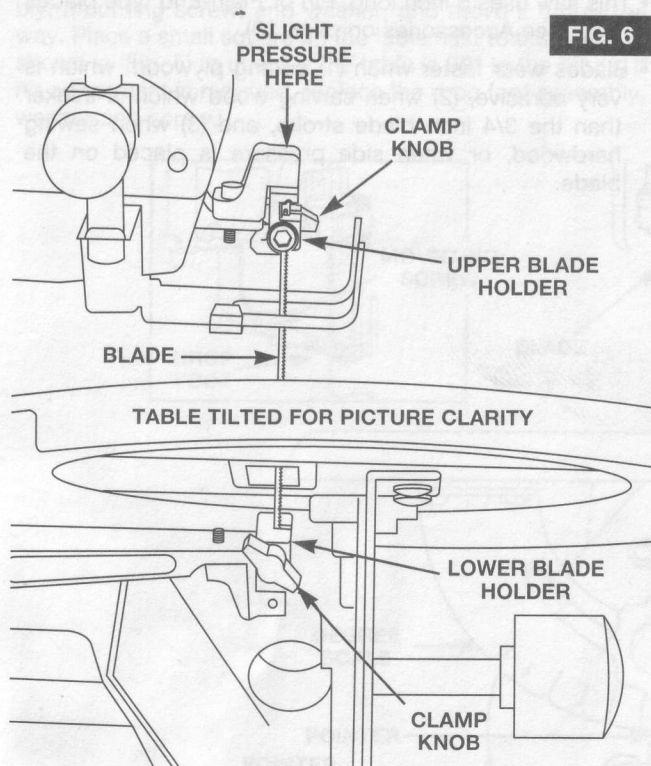

FIG. 6
NOTE: In order to cut, and avoid uncontrollable lifting of the workpiece, the teeth of the blade used on the Scroll Saw should always point downward as shown in (Fig. 6) when installed.
3. Install the blade by inserting one end of the blade through the access hole in the table and centering the blade in the blade slot in the upper and lower blade holders. To secure the blade securely tighten the clamping knob on the upper and lower holders. If desired, the allen wrench provided can assist in securely tightening the blade into the upper and lower blade holders (Fig. 6).